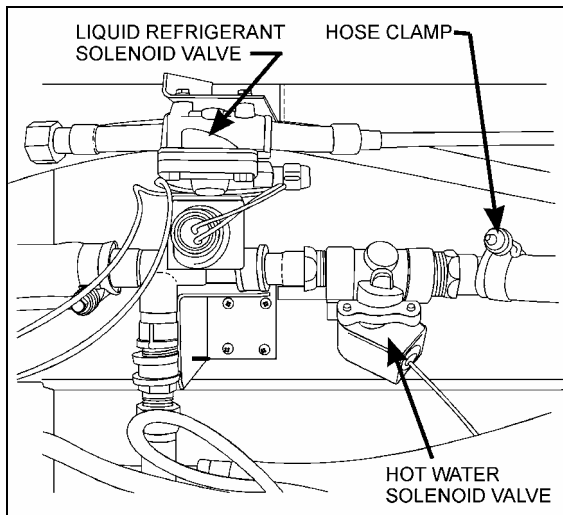

FIGURE 39: CEILING OF THE SPARE WHEEL COMPARTMENT
2. Locate the normally open water solenoid valve on the ceiling of the spare wheel compartment (Fig. 39), disconnect its wiring connector, then connect a 24-volt external power source, using jumper cables, to close valve.
A two-way normally open, internal pilot-operated solenoid valve designed for smooth closing is used to control the coolant flow through the driver's heating unit. It is mounted on the coolant inlet line of the driver's heating unit, and is accessible through the spare wheel compartment (see fig. 39). The valve cannot be manually bypassed.